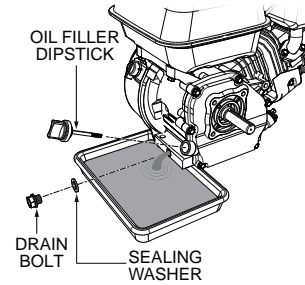

Figure 27. Engine Oil (Draining)
- Drain the engine oil when the oil is warm as shown in Figure 27.